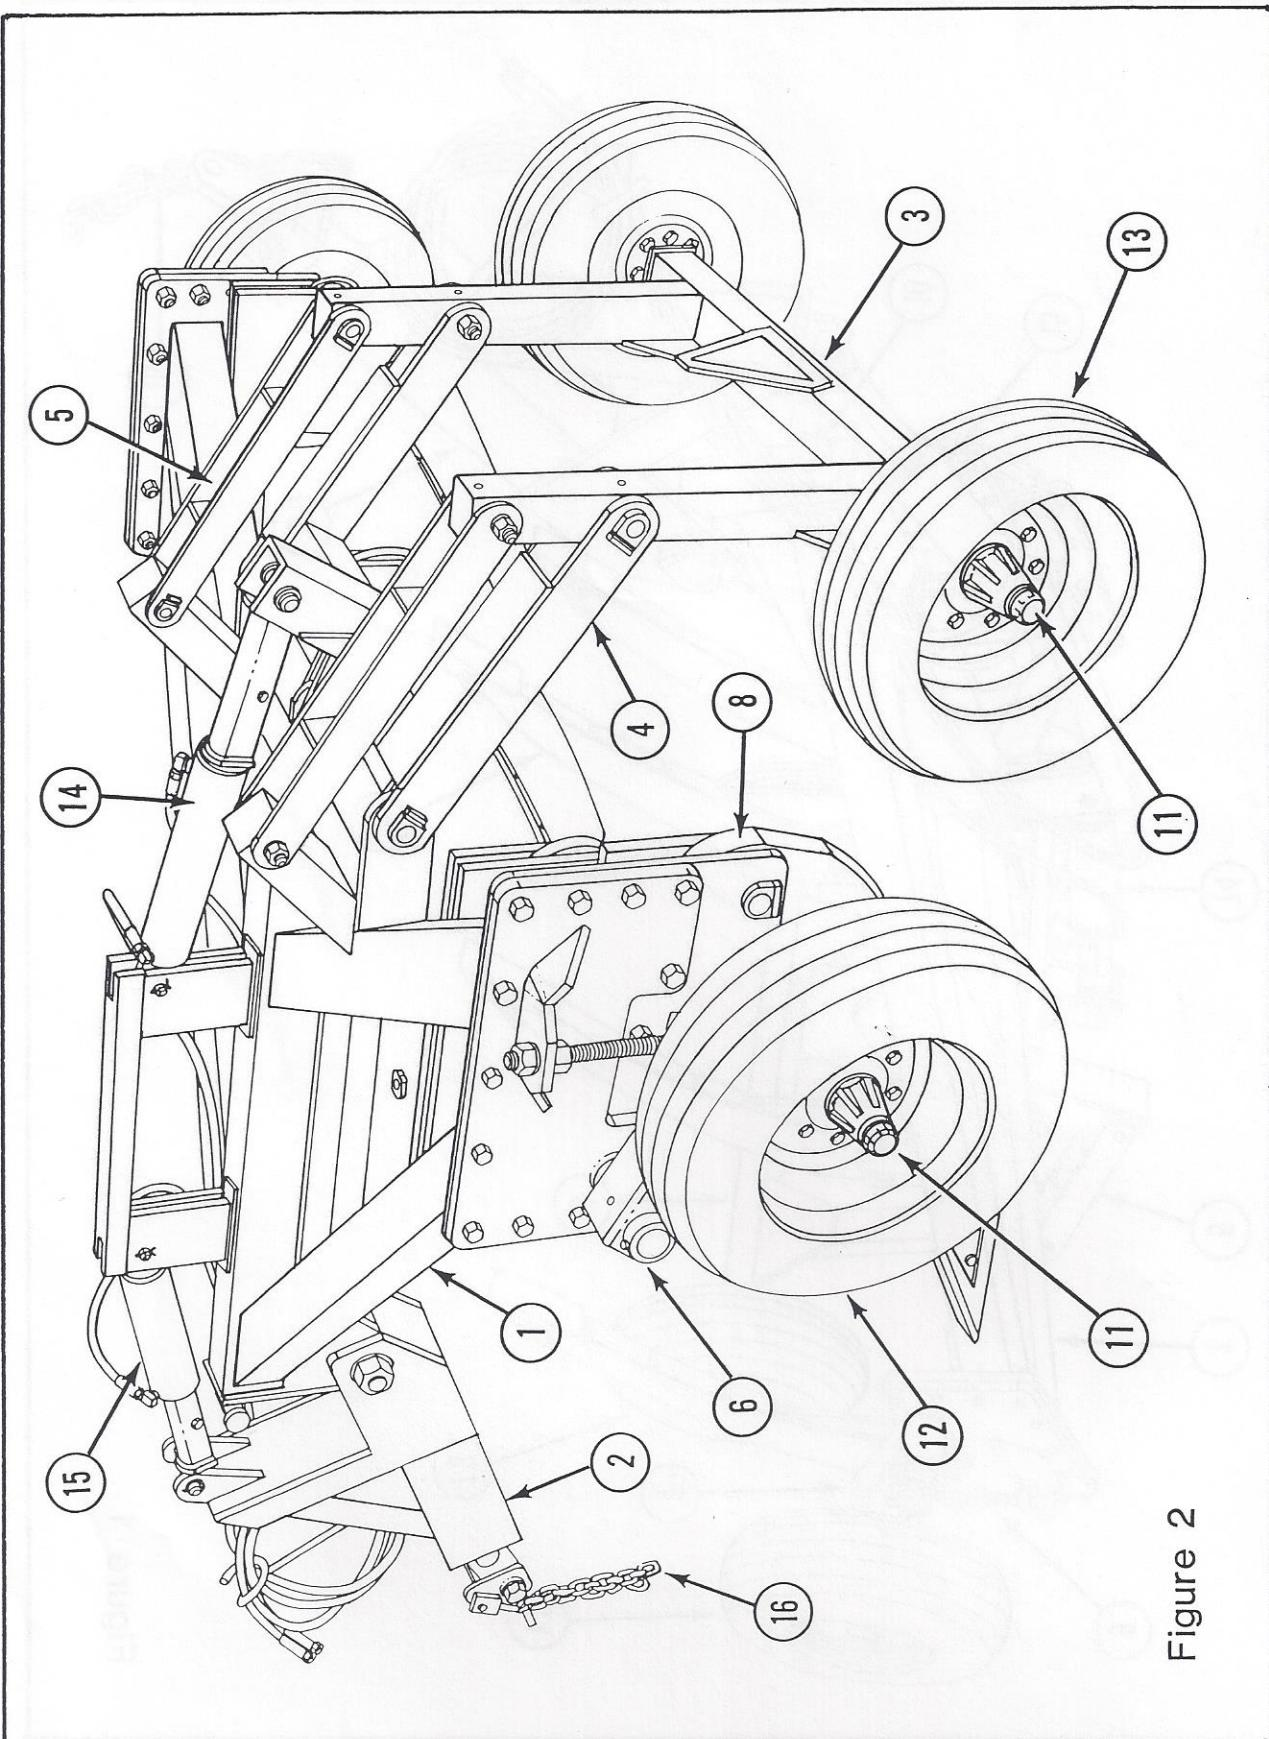

Figure 2
Attach the rod end of the drawbar cylinder to the cylinder bracket located at the top of the drawbar assembly and the base end to the front bracket on the centerframe. Secure both ends with cylinder pins and cotter keys provided. See fig. 2 and schematic I.
Connect the transport assembly to the brackets located at the rear of the centerframe. Use 1" x 5-1/2" threaded pins and self-locking hex nuts to attach the transport assembly to the left and the right outside brackets and a 1" x 4-1/2" threaded pin with self-locking hex nut for the center bracket. See fig. 2 and illustration B.
Use the 1" x 7.81" threaded pins and 1" self-locking hex nuts to attach the (2) two transport linkage assemblies to the transport mounting arms located at the top rear of the centerframe. See fig. 2 and illustrations A and B.
With the transport leg assembly in the upright position, connect both transport linkage assemblies to the top set of holes on each leg of the assembly . . . secure with 1" x 7.81" threaded pins and 1" self-locking hex nuts. Now, connect the attaching brackets located on the transport assembly to the bottom set of holes on each leg of the leg assembly with 1-1/4" x 8.12" threaded pins and 1-1/4" self-locking hex nuts. See fig. 2 and illustration B.
Insert spindles into round tubing of transport leg assembly and bolt into place with 1/2" x 6" hex bolts, lockwashers and nuts. Attach hub assemblies to spindles . . . secure with 1" slotted hex nuts and cotter keys (part of hub assembly). Mount wheels on hubs with (8) eight (lug) wheel bolts provided. See fig. 2 and illustration B. Be sure valve stem is on the outside of the wheel. Care should be taken to ensure the tapered rim bolt holes match the taper on the wheel bolts.
Attach the rod end of the 5 x 16 transport cylinder to the cylinder bracket located on the cross member of the transport assembly. Connect the base end to the cylinder bracket on the centerframe. Secure both ends with the cylinder pins and cotter keys provided. See fig. 2 and schematic I.
Attach right and left bolting plates to bolting shank mounting plates on each side of the centerframe. For each plate, use (3) three 1" x 2" hex bolts and (10) ten 1" x 3" hex bolts . . . all secured with (13) thirteen 1" self-locking hex nuts. See fig. 2 and illustration A for bolt placement.
Mount left and right gauge wheel arms on the wheel mount shafts located on the gauge wheel bolting plates (5 shank) or wing assemblies (7 shanks) and secure with wheel mount collars, 1/2" x 5" hex bolts, lockwashers and nuts. See fig. 2 and illustration A.
Insert spindle into each gauge wheel arm sleeve and bolt into place with 1/2" x 5" hex bolts, lockwashers and nuts. Attach hub assemblies to spindles ... secure with 1" slotted hex nuts and cotter keys (part of hub assembly). Mount wheels on hubs with (8) eight (lug) wheel bolts provided. See fig. 2 and illustration A. Be sure valve stem is on the outside of the wheel. Care should be taken to ensure the tapered rim bolt holes match the taper on the wheel bolts.